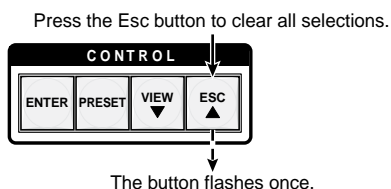

Figure 3-45 — Clear all selections
1. Press and release the Esc button (figure 3-45).